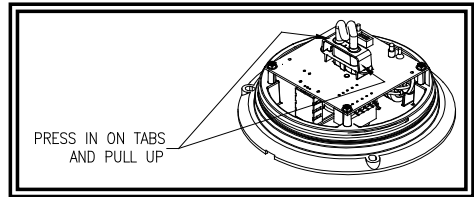

Figure 4
Most strobe failures can be traced to wiring or battery problems. Check all wiring and connections to insure the correct voltage is reaching the strobe light. If the strobe operates erratically or stops completely, and the wiring is not at fault, the flashtube is probably worn. To replace it, remove the lens, and remove the flashtube by squeezing on the tabs on the side of the tube holder and pulling off. **WARNING!** The strobe power supply is a high voltage device. Wait 5 minutes after turning off power before removing lens for access to internal parts. Plug in the new tube assembly. See Figure 4. **Note:** The connector is keyed to ensure proper orientation. Do not force. If trouble continues, return product to your local dealer for warranty replacement, or call ECCO Customer Service for assistance (800) 635-5900.